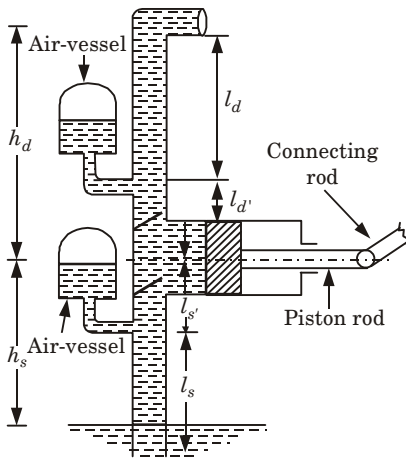

Fig. 5.37.1
1. A single acting reciprocating pump is shown in Fig. 5.37.1 with air vessels on suction side and delivery side. Air vessel works like an intermediate reservoir.